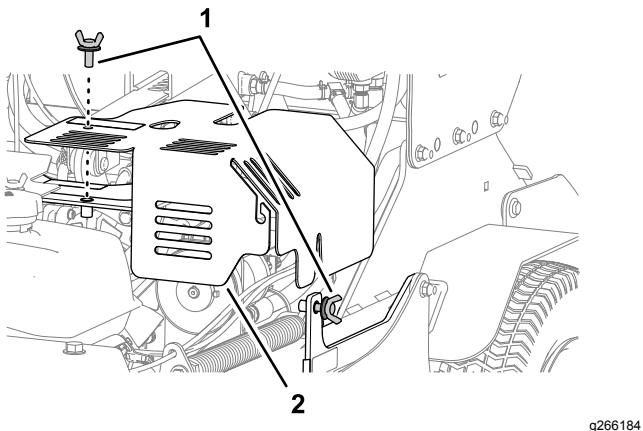

Figure 51
2. Remove the top thumbscrew, loosen the side thumbscrew, and remove the left hydraulic compartment cover (Figure 51).
5. Align the hole and slot in the left hydraulic compartment cover with the supports of the machine and secure the cover with the 2 thumbscrews (Figure 51).